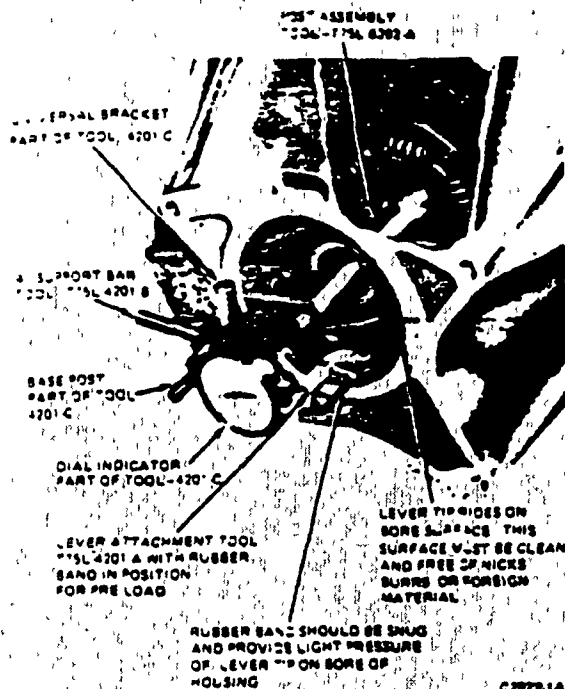

FIG. 4 Installing Dial Indicator For Bore Runout Check
- 10 After completion of the face runout check, install the dial indicator lever attachment to the dial indicator (Fig. 1) and position the assembly to check bore runout (Fig. 4). The rubber band shown attached to the lever (Figs. 1 and 4) must be installed as indicated, prior to installation of the lever, to preload the dial indicator for bore readings.